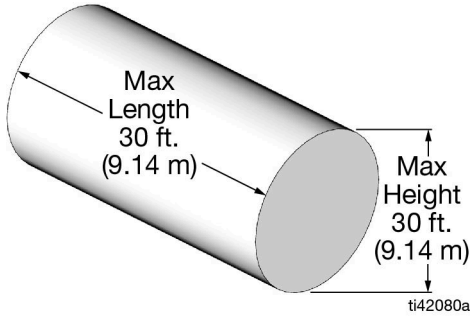

FIG. 17
- Tank end walls must be flat; they cannot be any other shape, including belled (FIG. 17). If needed, use a non-standard tank.